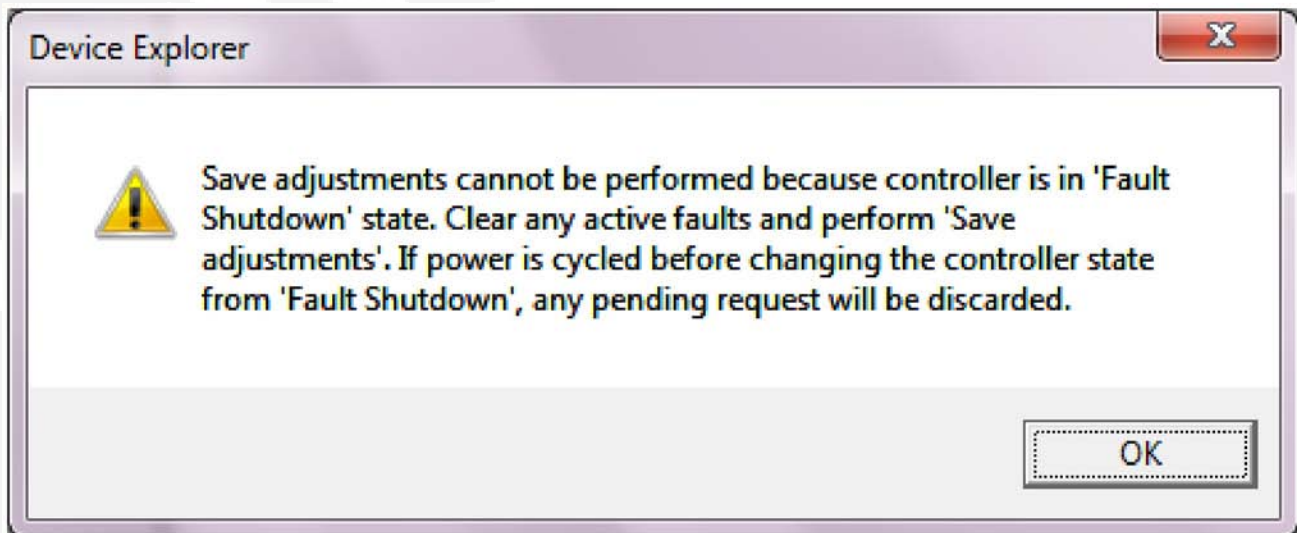

FIGURE 91. PCC1302 SAVE ADJUSTMETNS CANNOT BE PERFORMED MESSAGE
**Example:** In this example (Figure 91), InPower displays a message and disables the Save Adjustment when the Genset State of the PCC1302 control is Fault Shutdown and the user tries to edit and save the parameter values.